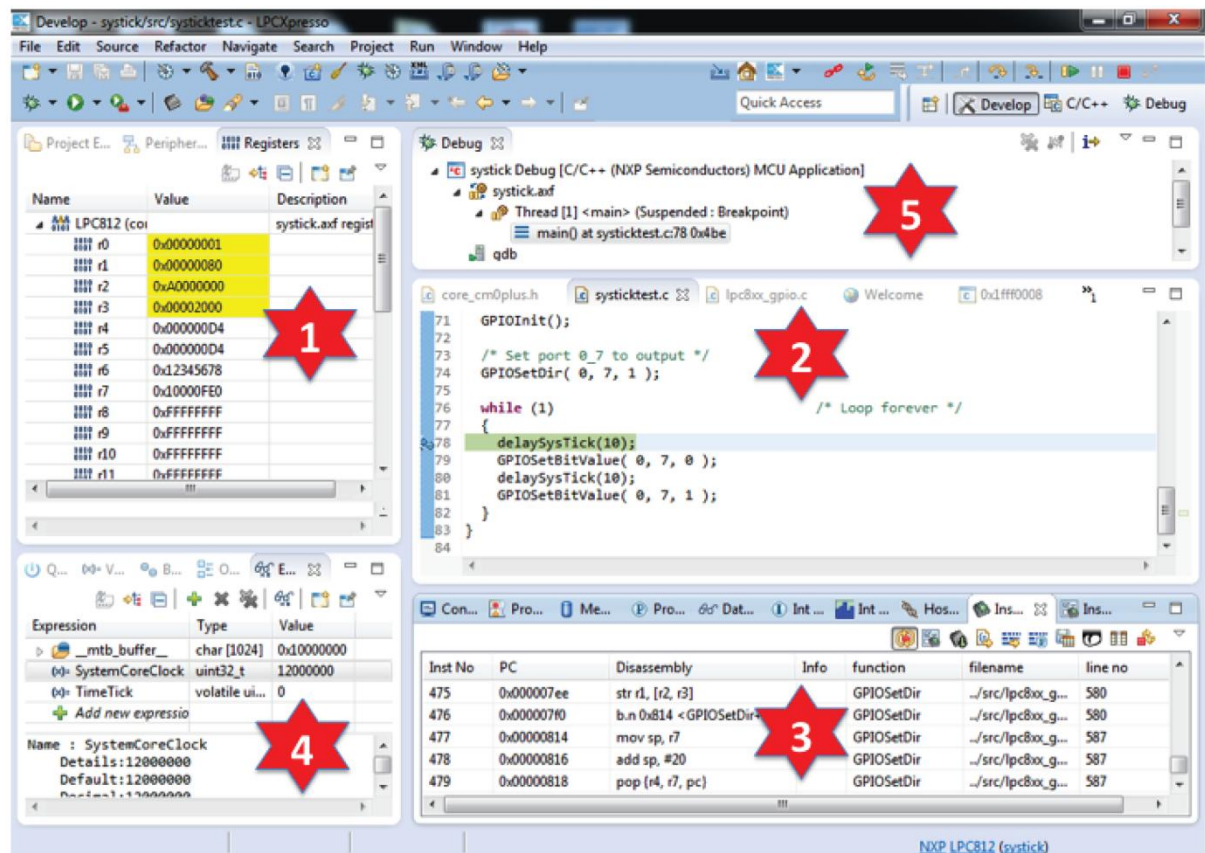

Fig. 3 Develop Perspective (whilst debugging)
**Develop Perspective:** Both code development and debug sessions operate as shown in Figure 3